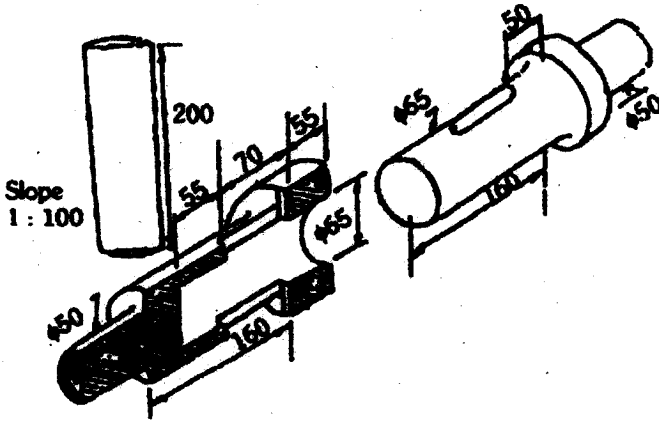

Figure 1
7. Figure 1 shows three components of a cotter joint. Assemble and draw the elevation with upper cotter (front) in section, top view, and side view (full). Choose the scale suitably. Make a part list and bill of materials.